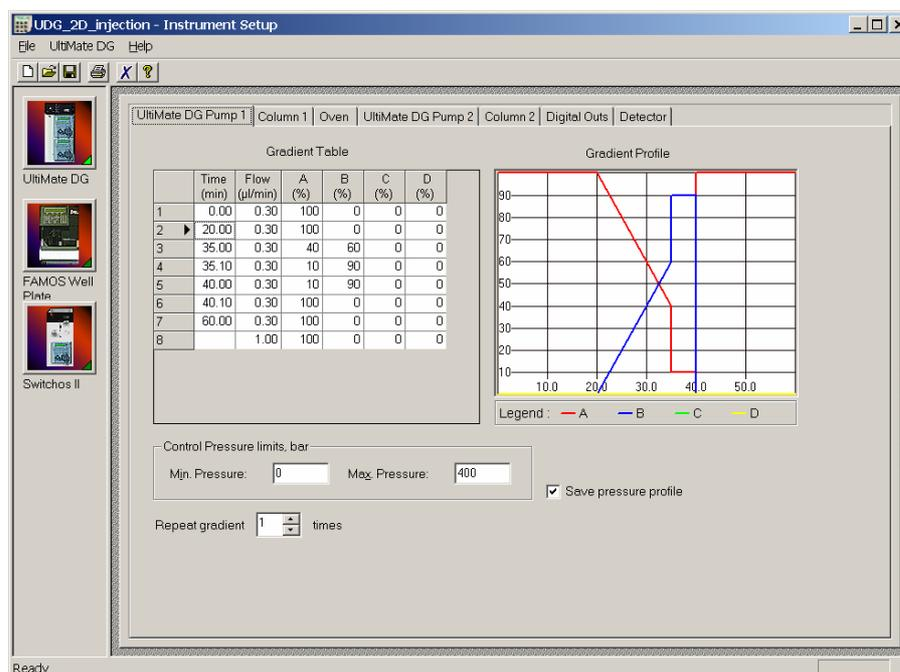

FIGURE 2-32 The Gradient Pump 1 Setup Window
- a) Choose the **UltiMate DG Pump 1** tab in the **Instrument Setup** window to display the pump setup window (FIGURE 2-32).